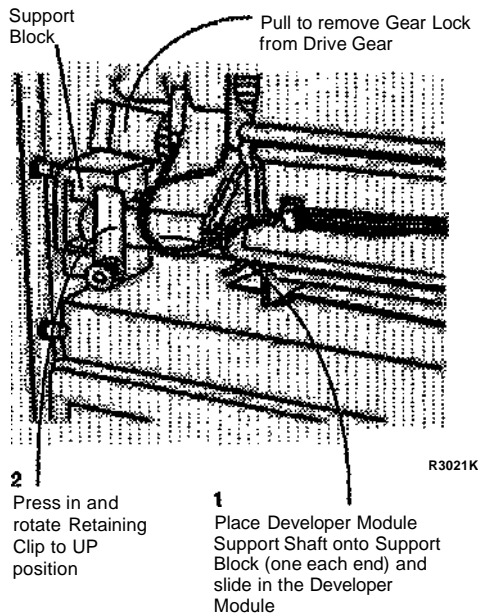

Figure 13. Reinstalling the Developer Module
20. (Figure 13): Reinstall the Developer Module.